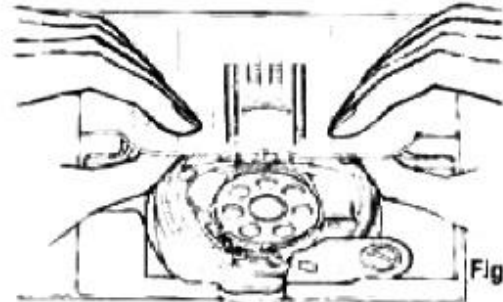

Fig. 2
3. Remove needle plate by placing thumb under edge of plate and lifting up and out. (See Fig. 2)